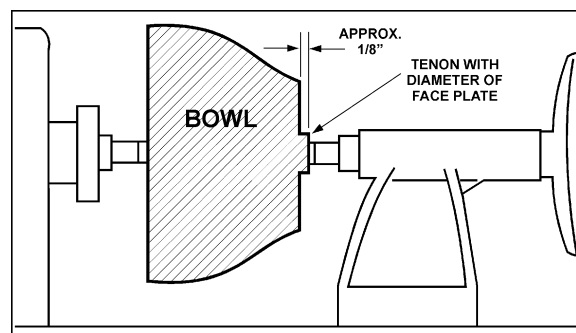

Figure 37
8. Turn a short tenon (about 1/8" long) the size of the hole in the faceplate. See Figure 37. This will allow centering the workpiece when the faceplate is attached.